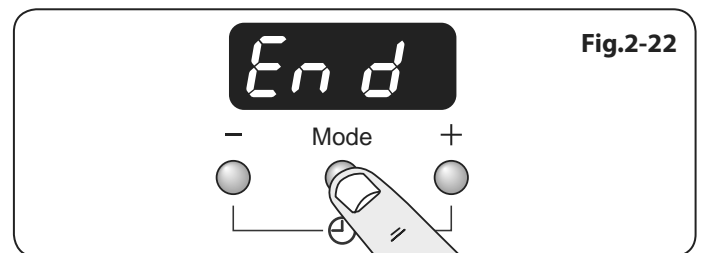

Fig.2-22
2. Press the mode [Mode] button until the display flashes 'End' (Fig.2-22). Then set the 'stop time' using the [+] or [-] buttons. After a 5 second period following adjustment the current time will be displayed along with the 'A' and cooking [SSJ] symbols (Fig.2-23).